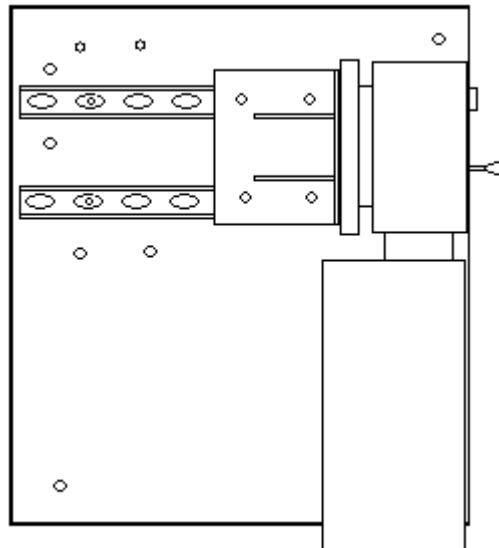

FIGURE 14
Bolt loosely the lift bracket with gusset (Item 1) to the uni-strut (Item 2) using (4) 3/8-16 x 1-1/4 hex head screws (Item 7) & (4) 3/8-16 spring nuts (Item 8). Position bracket in the middle of the uni-strut and do not tighten. Then bolt the Rotary mechanical power unit to the bracket using (4) 5/16-18 x 5/8 hex head screws (Item 6) & (4) 5/16-18 keps nut (Item 5). Tighten power unit to the bracket and then slide the unit forward so that the toggle switch of the power unit and on/off button come through the cover of the lift cabinet. Once in desired position tighten all fasteners. See Figure 14 below.